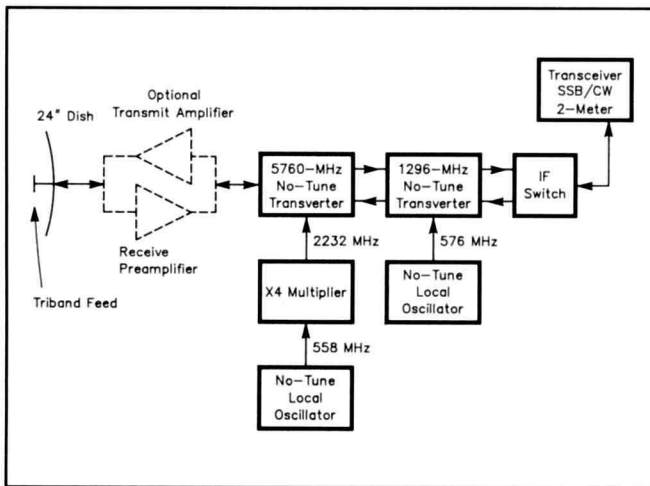

Fig 1—Block diagram of a basic 5760-MHz transmit/receive system.
The block diagram of a 5760-MHz transverter system using no-tune boards is shown in Fig 1. (The block diagram of the entry-level system using surplus components is not shown—it depends on the available components, and if you’re capable of assembling a microwave station from surplus components, you don’t need my block diagram!) Note that a 1296-MHz IF is needed with the no-tune 5760 transverter board. Three options for a 1296-MHz IF are (1) a 1296-MHz multimode transceiver (expensive but increasingly popular); (2) an existing 1296 transverter with a multimode IF trans-